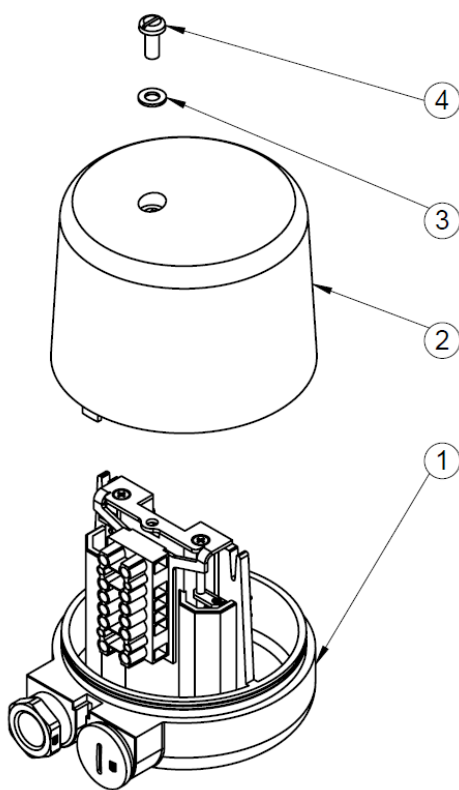

Figure 1 Exploded view of cover and lower part
- Remove the screw incl. washer and remove the cover (see pos. 2, 3 & 4 in Figure 1).